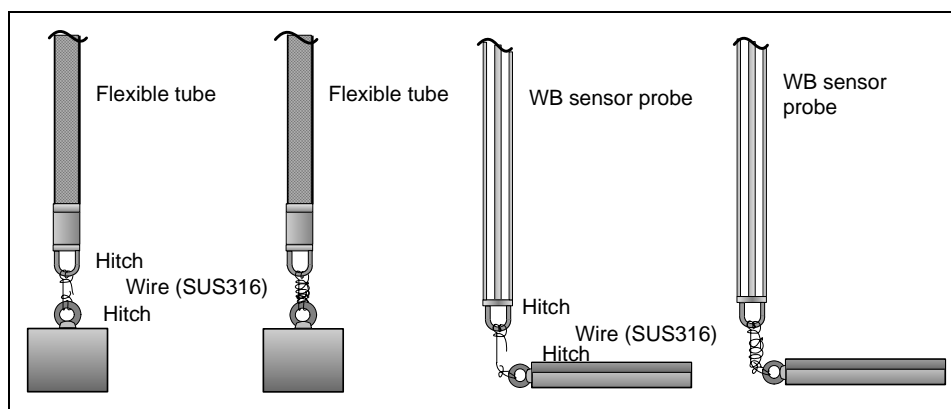

Figure 5-6: Flexible tube / WB sensor probe installation
4. Wind the tensioning wire twice around the hitches and wrap a wire around it (see Figure 5-6)